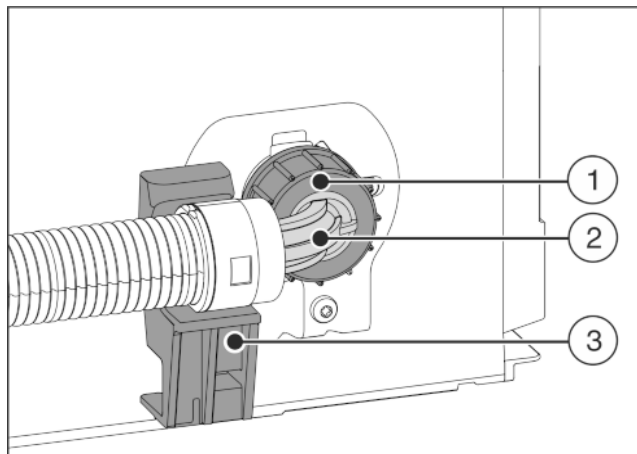

Fig. 22
- Hold the angled hose end Fig. 22 (2) horizontally at bracket Fig. 22 (3) and secure it.
- Screw the nut Fig. 22 (1) on by hand until it is firmly in place.